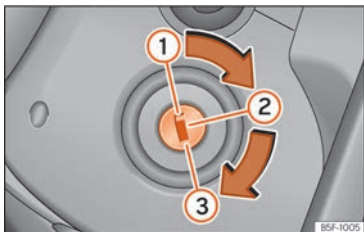

Fig. 251 Ignition key positions.
If the engine does not immediately start up, interrupt the starting process and try again after 30 seconds. To start the engine again, return the key to position **Fig. 251** .
»» Fig. 251 ①.
»» Fig. 251 ① »» ⚠.